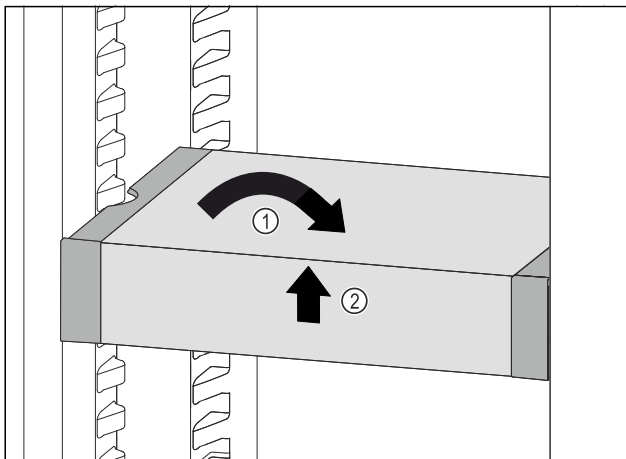

Fig. 176
- ▶ Set VarioSafe straight. Fig. 176 (1)
- ▶ Lift VarioSafe at the front. Fig. 176 (2)